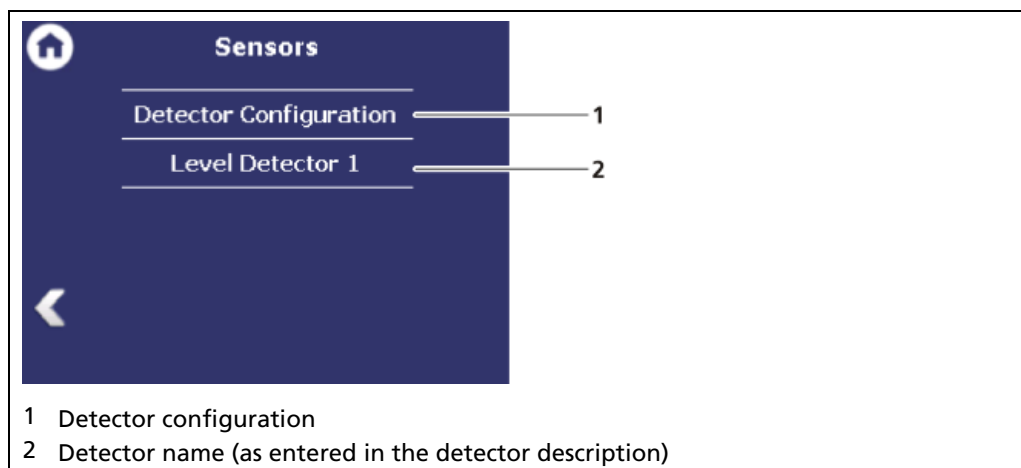
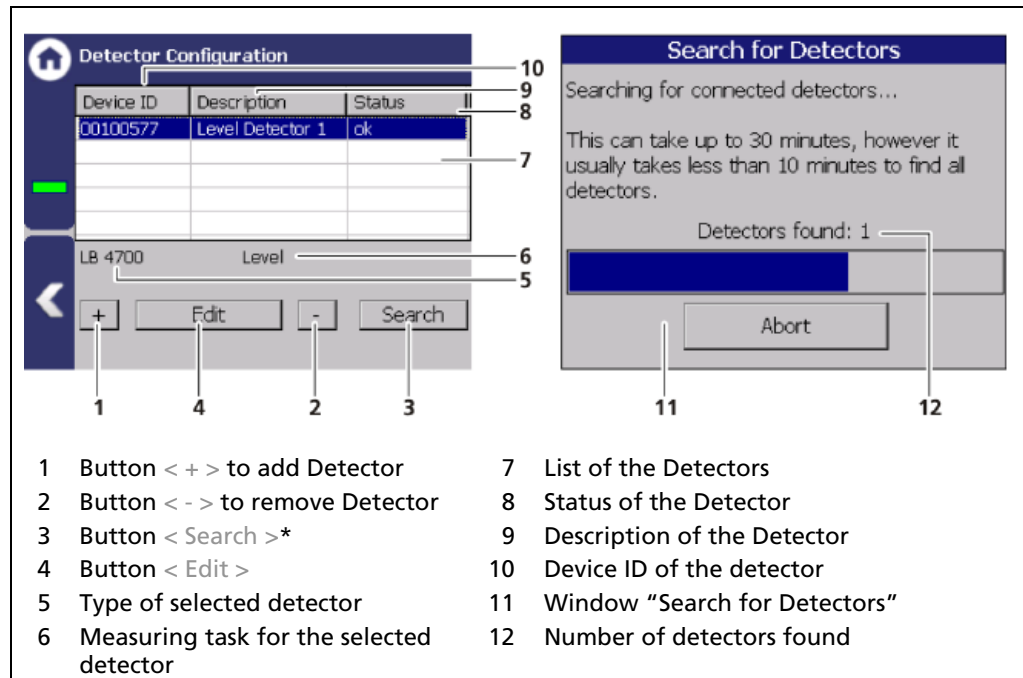
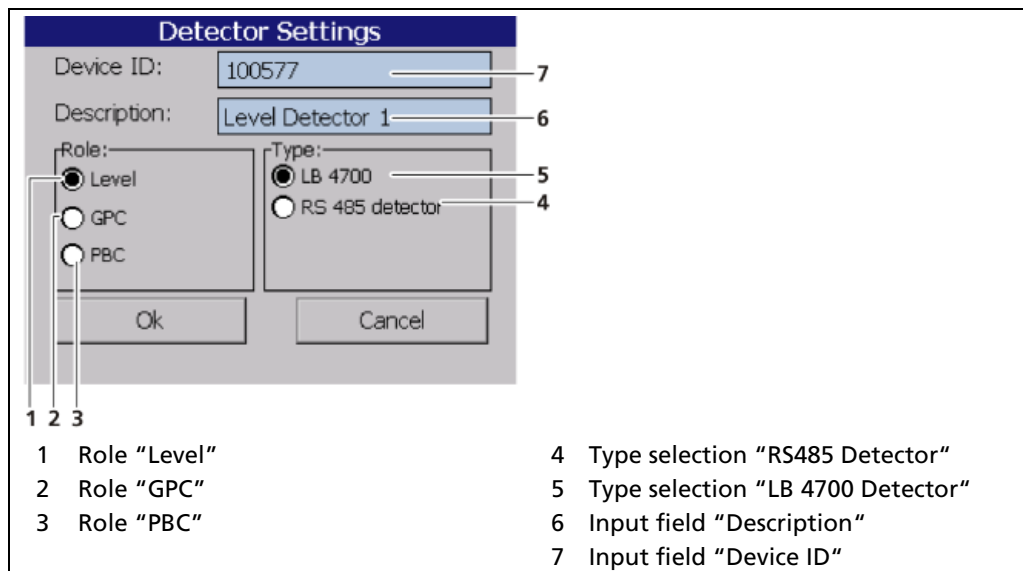

Fig. 43 Menu "Sensors"
Fig. 44 Detector Configuration
Fig. 45 Detector Settings
- Detector configuration (Fig. 43, item 1)
- Configuration of the respective detector (Fig. 43, item 2)
In the window "Detector Configuration" the detectors for the measuring system are added and configured. Only configured detectors are listed and shown in the menu (Fig. 43). When a detector is selected (Fig. 44, item 7), the detector type (Fig. 44, item 5) and measuring task (Fig. 44, item 6) are shown.
Detectors can be added manually with the button <+> (Fig. 44, item 1), provided their device ID and their roles are known. Detectors can be removed with the button <-> (Fig. 44, item 2). Clicking the button <Edit> (Fig. 44, item 4) opens the setting of the selected detector.
By clicking the button <Search> (Fig. 44, item 3), all LB 4700 detectors connected to the measuring system are identified and listed (Fig. 44, item 7).
LB 480 detectors are not found using the "Search" function. To add <+> (Fig. 44, item 1) LB 480 detectors, the corresponding device IDs must be known (see detector type plate) which is entered in the input field (Fig. 45, item 7).
The settings of a configured detector are edited by selecting and clicking on <Edit> (Fig. 44, item 4).
The role of the selected detector must correspond the measurement task of the detector (Fig. 44, item 7).
Description	Detector description. Also used for error messages, logs and in the menu structure (Fig. 43).